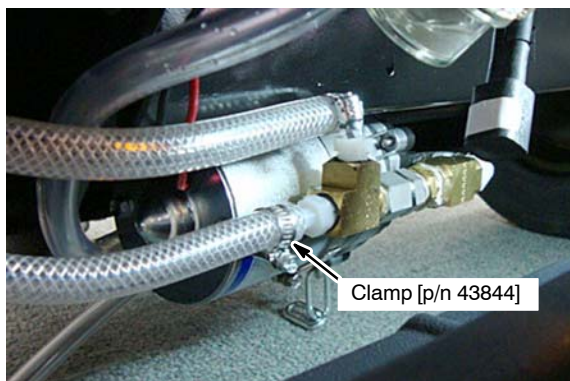

Fig. 35
8. Connect the 33 inch/84 cm length hose to the *ec-H2O* pump assembly as shown (Figure 35).